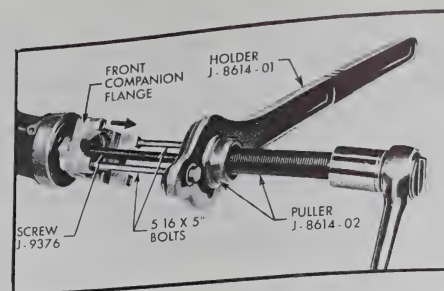

Figure 4-121—Removing Front Companion Flange
3. Remove front companion flange. See Figure 4-121.